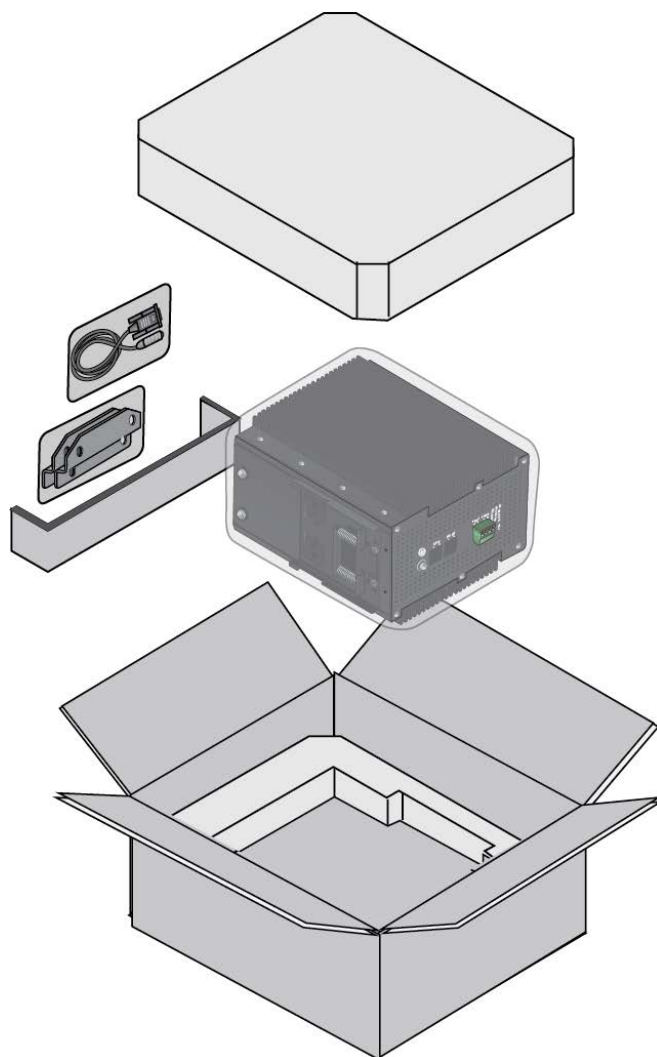

Figure 17. Removing the Switch from the Shipping Box
1. Remove all the components from the shipping box. Refer to Figure 17.